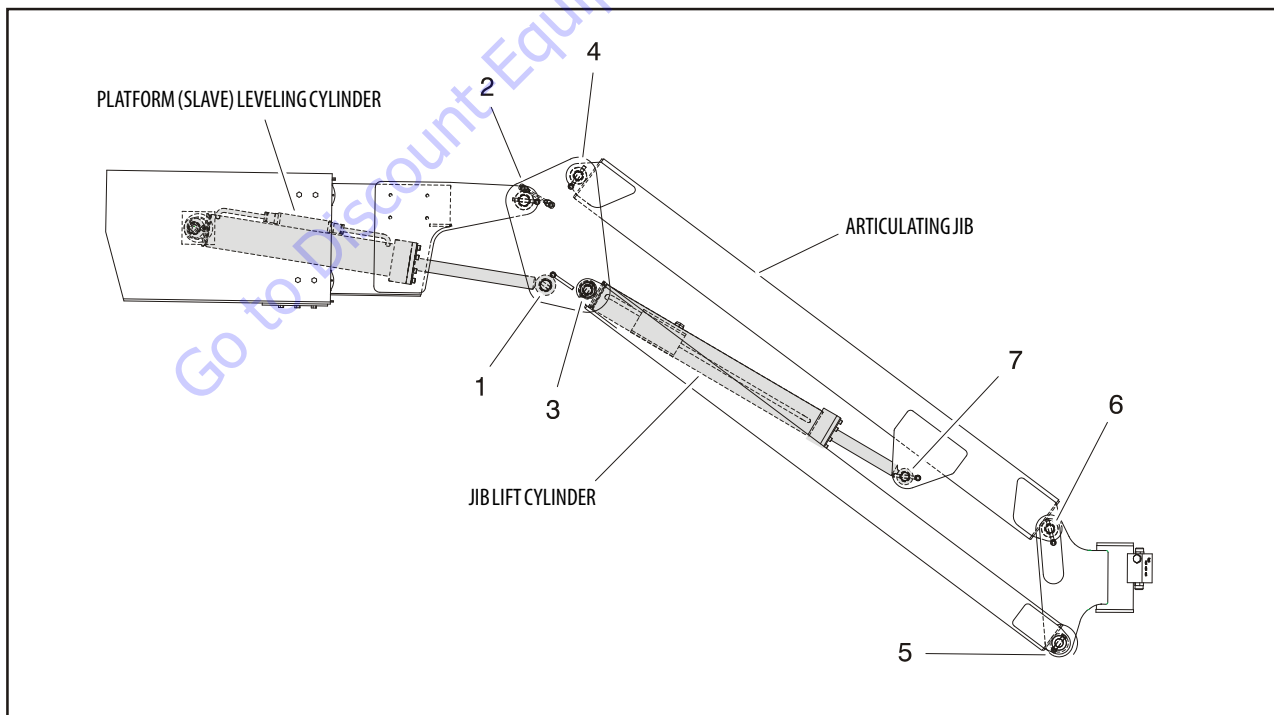

Figure 4-18. Location of Components-Articulating Jib
**NOTE:** Pin numbers listed in the following procedures are referenced in Figure 4-18., Location of Components-Articulating Jib.